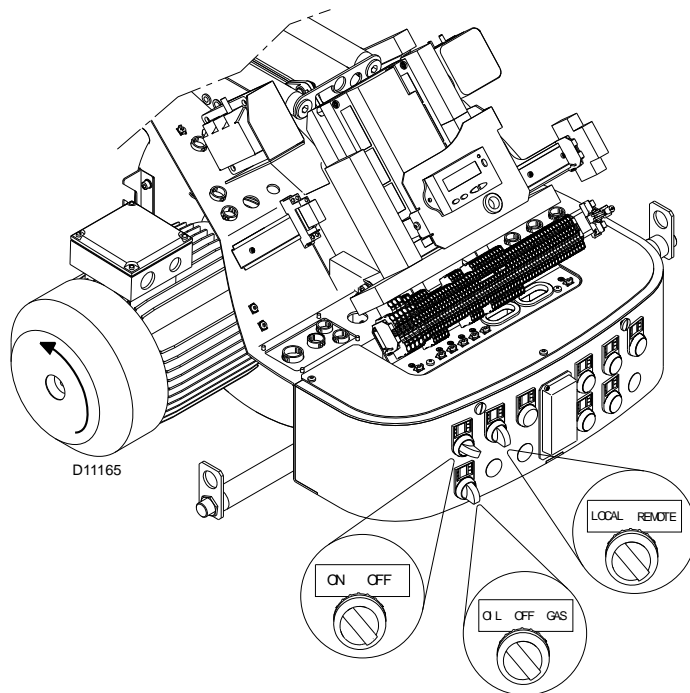

Fig. 47
Turn the switch to position “ON” (Fig. 47) and turn the switch of to position “LOCAL” and turn the switch to position “OIL” for oil operation and “GAS” for gas operation.
When the burner starts, check the direction of the motor rotation, as indicated in Fig. 47.
- place the switch of Fig. 47 in position “OFF” and wait for the control box to carry out the switch-off phase;